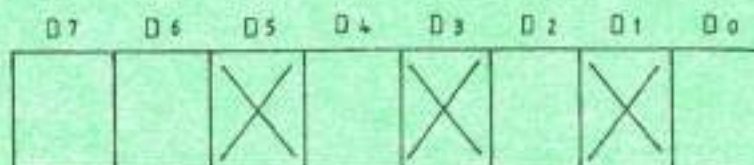

Fig. 1
- (c) **Figure 1** shows a diagram of an Intel 8085 flag register.